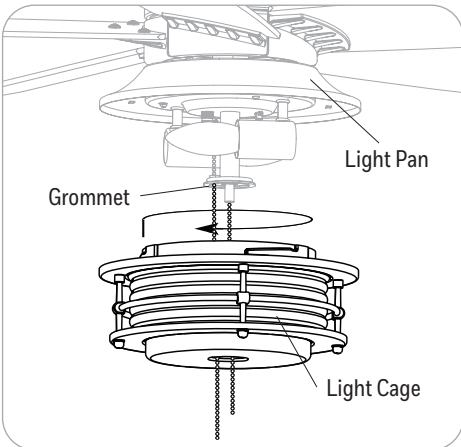

Figure 5.10
10. Feed the pull chain coming from the off-center hole in the light kit through the grommet on the lower part of the light kit. Feed pull chains coming from the light kit through the center hole in the light cage. Then lift the light cage into the light pan and turn in a clockwise direction until the light cage is secure (Figure 5.10).